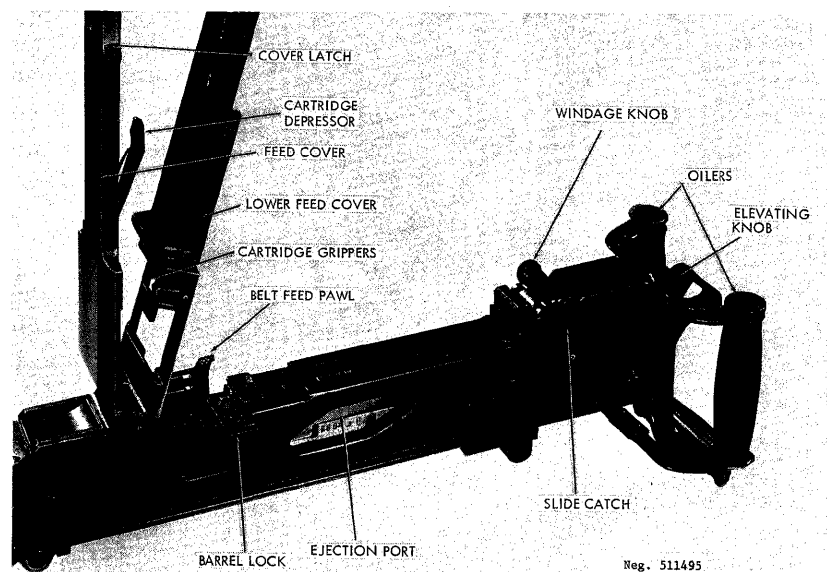

Figure 196. SG-43 receiver detail.
- c. Open the feed cover by pressing the cover catch (fig 196) forward and swinging the cover up. Place the belt in the feedway with the rim of the first cartridge between the cartridge feed slide grippers (fig 196); then close the cover. Pull the operating handle fully to the rear and push it fully forward; this handle is located between the grips on the SG43 and SG43M or on the right side of the SGM series guns.
d. Lift the rear sight leaf to a vertical position and adjust it for the desired range by pressing the slide catch (fig 196) and moving the slide along the leaf until the upper edge of the slide is aligned with the line below the number that corresponds to the range in hundreds of meters. Final fine elevation adjustment is made by the elevating knob, and lateral or windage adjustment can be made by the windage knob (fig 196). Use the range figures on the right side of the leaf when firing light bullets (Type L or LPS); use the left side of the leaf when firing silver-, white-, or yellow-tipped bullets. The front sight is adjustable for windage and elevation zero; loosen the nut on the front sight base, and move the sight from side to side, as necessary, to zero; then screw the nut in or out, as necessary, for elevation zero.
f. To unload or clear the weapon, open the cover by pressing the cover catch forward. Lift the belt from the feed pawls (fig 196) and remove it. Lift the lower feed cover and remove the cartridge from the cartridge grippers. Inspect to insure that no cartridges remain in the gun. Pull the operating handle to the rear, and while holding it, raise the safety, press the trigger, and ease the operating handle forward. Close the covers and lower the rear sight.